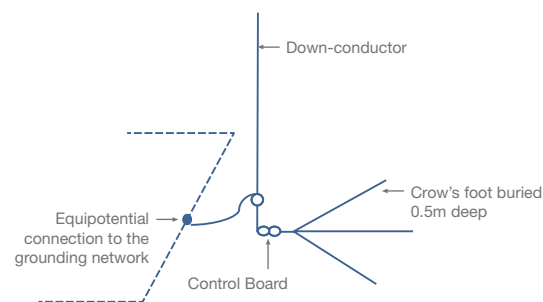

Fig. 15 – Example of grounding of type A1: 3 horizontal conductors (deep: 50cm, length: 7 to 8m).
**TYPE A1:** It consists of a crow's foot configuration (see Fig. 15).